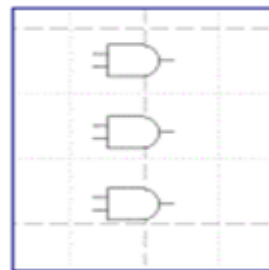

Figure 10-3
- Move the mouse pointer to the *Design Window* and place three of these gates where you want them by clicking once for each gate. See Figure 10-3.